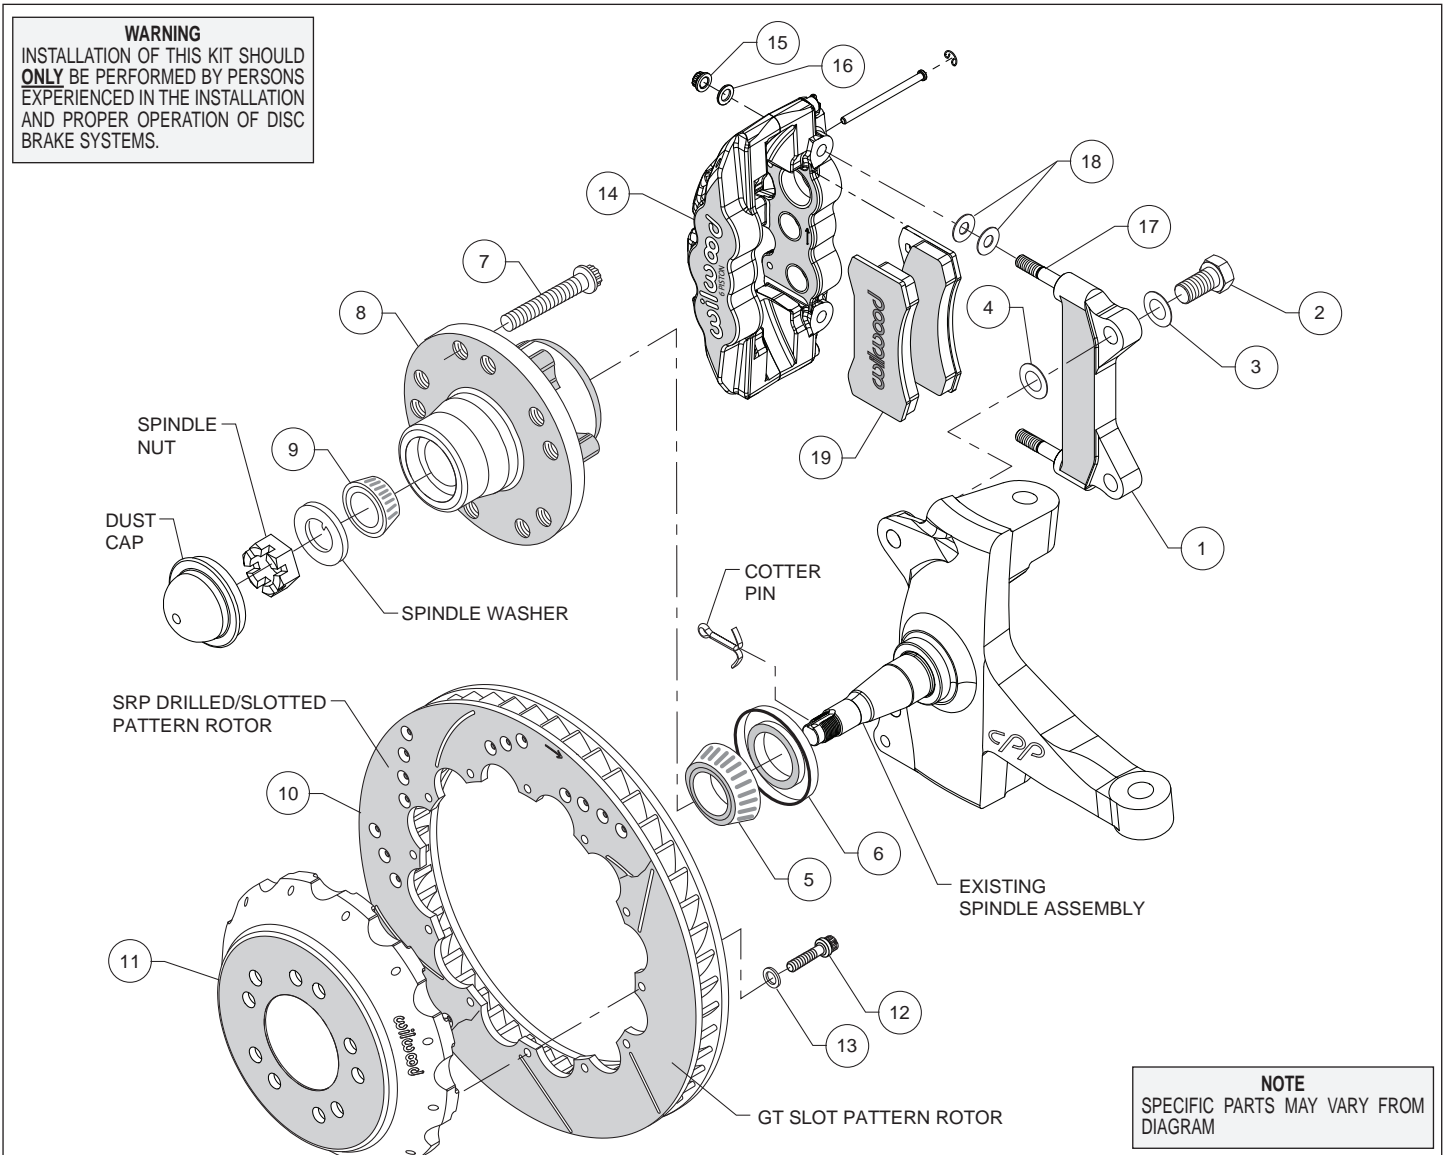
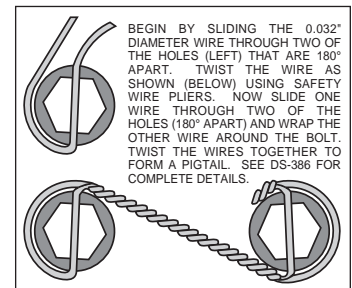

Figure 1. Typical Installation Configuration
Figure 3. Safety Wire Diagram
### Assembly Instructions (numbers in parenthesis refer to the parts list and Figure 1 on the preceding pages):
- The caliper mount bracket (1) should initially be installed with clean, dry threads on the mounting bolts. Orient the bracket, as shown in Figure 1, and Photo 1, and install using bolt (2) and washer (3). Initially place one .024" thick shim (4) on each bolt between the bracket and upright, Figure 1. Temporarily tighten the mounting bolts. **NOTE: The bracket must fit squarely against the mount bosses on the upright.** Inspect for interference from casting irregularities, machining ridges, burrs, etc. Later, after the caliper alignment has been checked, the mount bolts will be secured using red *Loctite*® 271.
- Install wheel studs (7) into the hub (8), Photo 2. Torque to 77 ft-lb. **NOTE: There are two five lug patterns in the hub (5 x 4.75 and 5 x 5.00).** Ensure the correct hub stud pattern is being used to fit the wheel application.
- Pack the large inner bearing cone (5) with high temperature disc brake bearing grease (available from your local auto parts store) and install into the backside of the hub (8), Photo 3.
- Install the grease seal (6) by pressing into the backside of the hub (8), flush with the end of the hub, Photo 4.
- Orient the rotor (10) and the hat (11) as shown in Figure 1 and Photo 5. Attach rotor to hat using bolts (12) and washers (13). Using an alternating sequence, apply red *Loctite*® 271 to the threads, and torque to 155 **in-lbs**. For an added measure of security, the bolts may be safety wired using standard 0.032 inch diameter stainless steel safety wire as shown in Figure 3.
- Pack the small outer bearing cone (9) with high temperature disc brake bearing grease and install into hub (8). Slide the hub assembly onto the spindle. Secure using spindle washer and spindle nut, Photo 6. Adjust bearings per OEM specifications. Install saved OEM nut lock (if any) and a new cotter pin.
- Press the dust cap into the hub (8).
- Slide the hat/rotor assembly (10/11) onto the hub (8). **NOTE: The hat must fit flush against the hub face or excessive rotor run out may result.**
- NOTE: This kit contains distinct right and left hand calipers that must be mounted in a specific direction, as described below.** Lubricate the caliper mounting studs (17) with lightweight oil. Initially place two .030" thick shims (18) on each stud as shown in Figure 1 and Photo 7. Mount the caliper (14) onto the bracket
(1) using lock nuts (15) and washers (16), Figure 1. Ensure that the caliper is mounted so that the largest pistons are at the rotor exit end of the caliper, in relation to the direction of rotor rotation. Temporarily tighten the lock nuts and view the rotor through the top opening of the caliper. The rotor should be centered in the caliper, Photo 8. If not, adjust by adding or subtracting shims (4) between the bracket and the upright. Always use the same amount of shims on each of the two mounting bolts. Once the caliper alignment is correct, remove the bracket mounting bolts one at a time, apply red *Loctite*® 271 to the threads, and torque to 120 ft-lbs.
- Remove the two pad retaining pins from the caliper (14) by carefully popping out the pin retaining clips and sliding out the pins. Insert the brake pads (19) into the caliper from the bottom, Figure 1 and Photo 9. With the friction material facing the rotor, secure the brake pads in place with the pad retaining pins and clips, Photo 10. Reinstall the caliper onto the caliper mounting bracket and temporarily tighten the lock nuts. Check that the top of the brake pad is flush with the outside diameter of the rotor, Photo 11. If not, adjust by adding or subtracting shims (18) between the caliper and the bracket. After the caliper pad height is set, torque the caliper lock nuts (15) to 47 ft-lb.